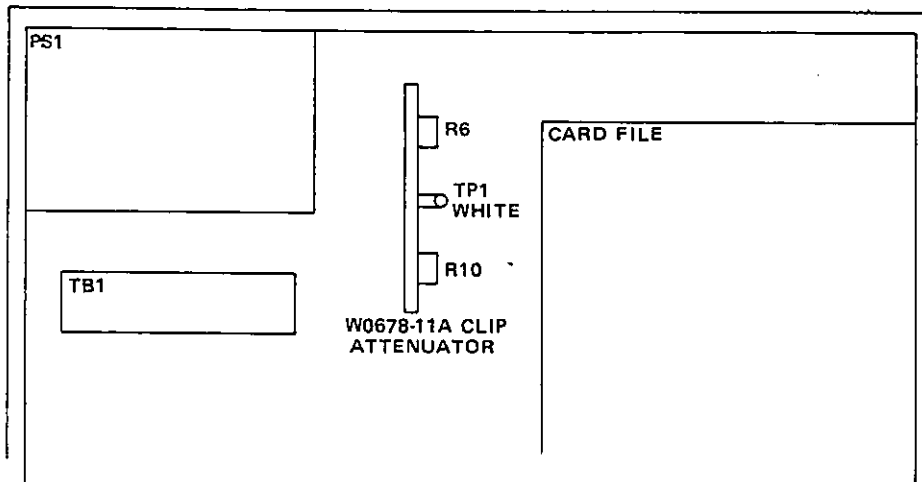

Figure 2.18. Top View of EPA Showing Location of Clip Attenuator Module
d. On Channel B of the oscilloscope, monitor the Clip Attenuator Gate at TP1 (white test point) on the Clip Attenuator module (see Figure 2.18).
g. Adjust the potentiometer (R6) on the Clip Attenuator module (refer to Figure 2.18 for location of R6) until the pulse peak reading on the EPA DPM is the same as the value obtained in step e. (+1 volt) or in accordance with local directives. Since the volt/ampere ratio of the Current Transformer (Pearson Model 1705) is 1/10, the peak current on the antenna may be obtained by multiplying this reading by ten.